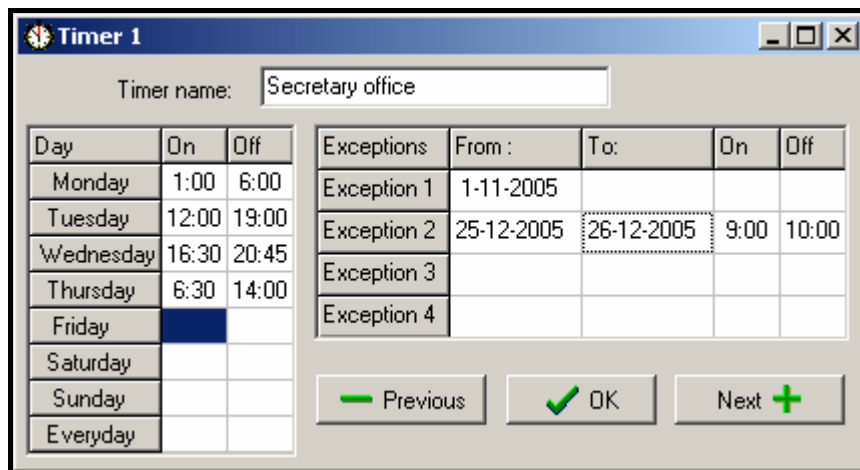

Fig. 8. Timing for CONTROLLED BY TIMER partition.
- **Access according to timer** – the partition is controlled by the user, but partition arming and disarming is only possible within time periods determined by operation of selected timers. Depending on the control panel size, an option with 16 or 32 timers is provided. Beyond those time periods neither arming, nor disarming of the partition is possible. For example, if the timer shown in Figure 8 is selected to control access to the “Secretary office” partition, the partition arming / disarming will be possible according to schedule – on Monday between 16:30 and 16:45, on Friday between 18:00 and 18:15 and so on, except for the time periods given in the timer exception table.